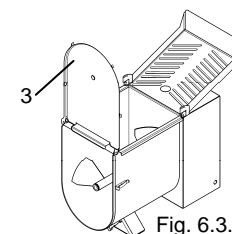

Fig. 6.3.3
- Raise the front over "3" Fig. 6.3.3